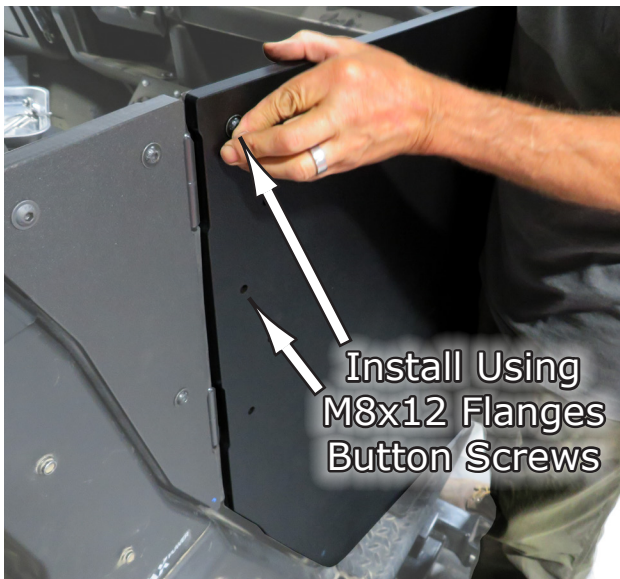
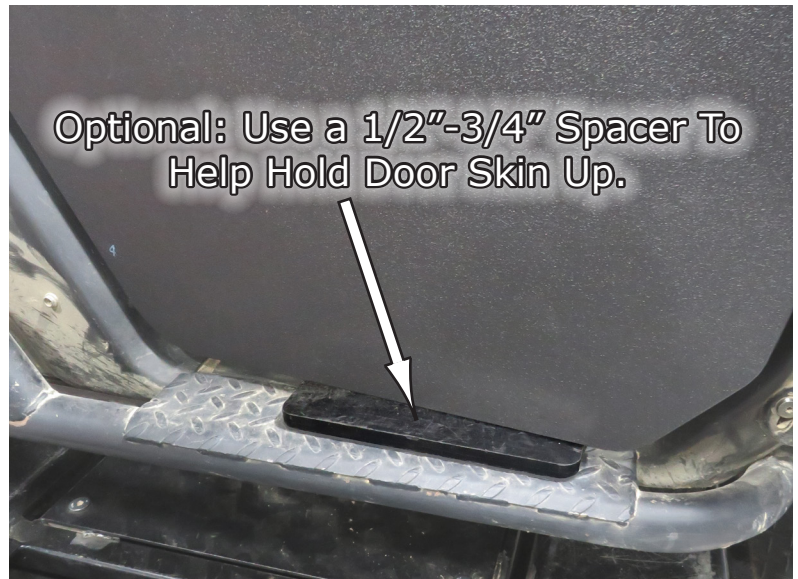
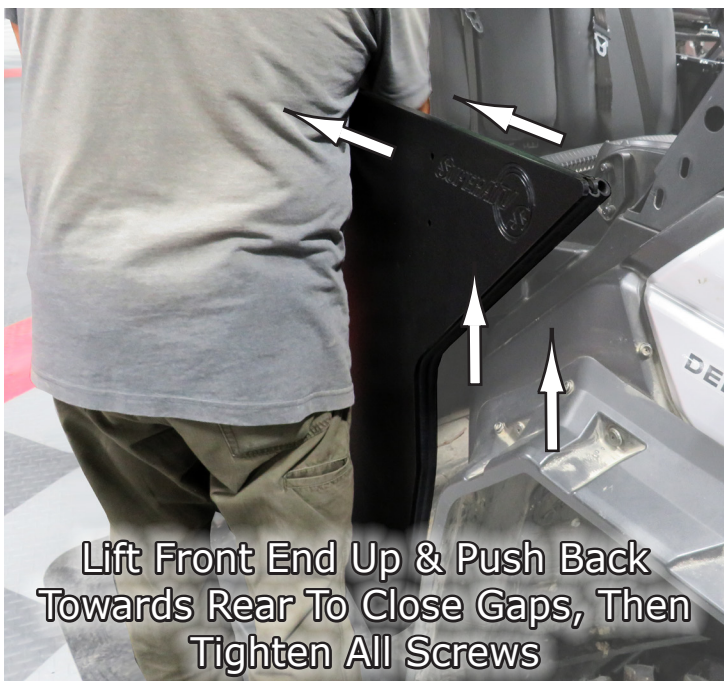

Fig.12a
Fig.12b
Fig.12c
12. After the **Filler Panel** is installed, you can now install the main **Door Skin**. Install using (5) **M8x12 Flanged Button Head** screws and (5) **Barrel Nuts** provided in your kit. See **Fig.12a**. You may want to get a spacer 1/2"-3/4" or so to hold the door skin up on a more level plane while installing the screws especially if installing by yourself. See **Fig.12b**. After inserting all the screws in the **Door Skin** with them a little loose, lift up on the front end of the door and push it back towards the rear as to close any gaps between the **Door Skin** and the **Filler Panel**. This will help give a more straight alignment visually. Then Tighten all screws. See **Fig.12c-d**.